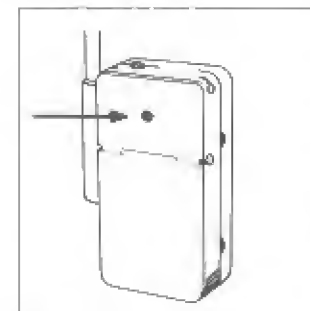

Figure 3
Since the attenuation depends on the input impedance of the hearing aid, an impedance matching is necessary. This matching is done with a potentiometer which is accessible through a hole in the rear housing shell (see fig. 3).
- 1.1 Remove seal (fig. 3).
5. Speak into the microphone of the transmitter, while turning the potentiometer (7) at the EK 1013-6-1 so that the hearing aid's microphone sensitivity is audibly reduced.